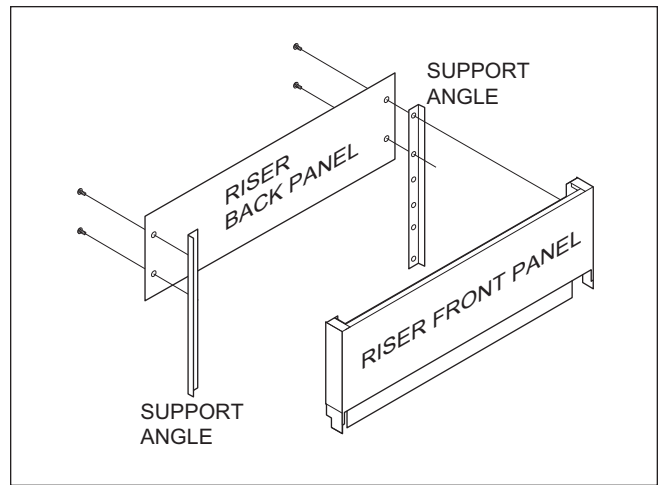

Figure 1. Parts included with Riser (excluding optional shelf)
3. Lay riser back panel on top of riser front panel, lining up screw holes from riser front panel, support angles and riser back panel. The flange at the top of the riser back panel should point towards the front of the unit (See Figure 1).